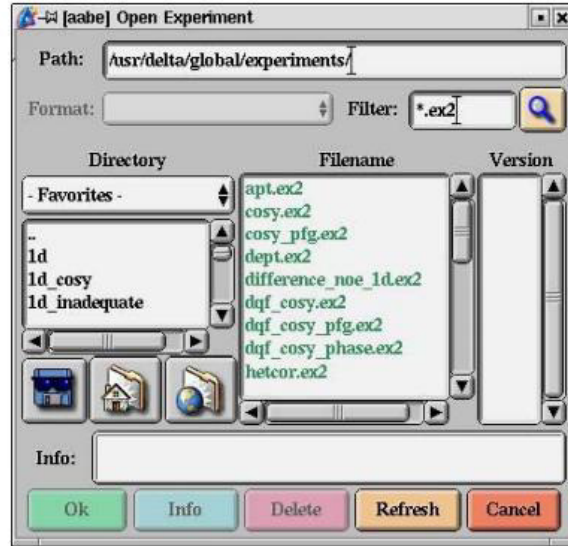

Fig. 3.3: Open Experiment Window
- iii. Open Experiment Window is displayed as below (Refer Fig 3.3)
- iv. Select the experiment from the filename column (Fig. 3.3). For any 1D & 2D measurement, e.g. 13C, Noe-diff etc., please refer to Measurement User's Manual in Chapter 4 & 5. Here, we select single pulse experiment.